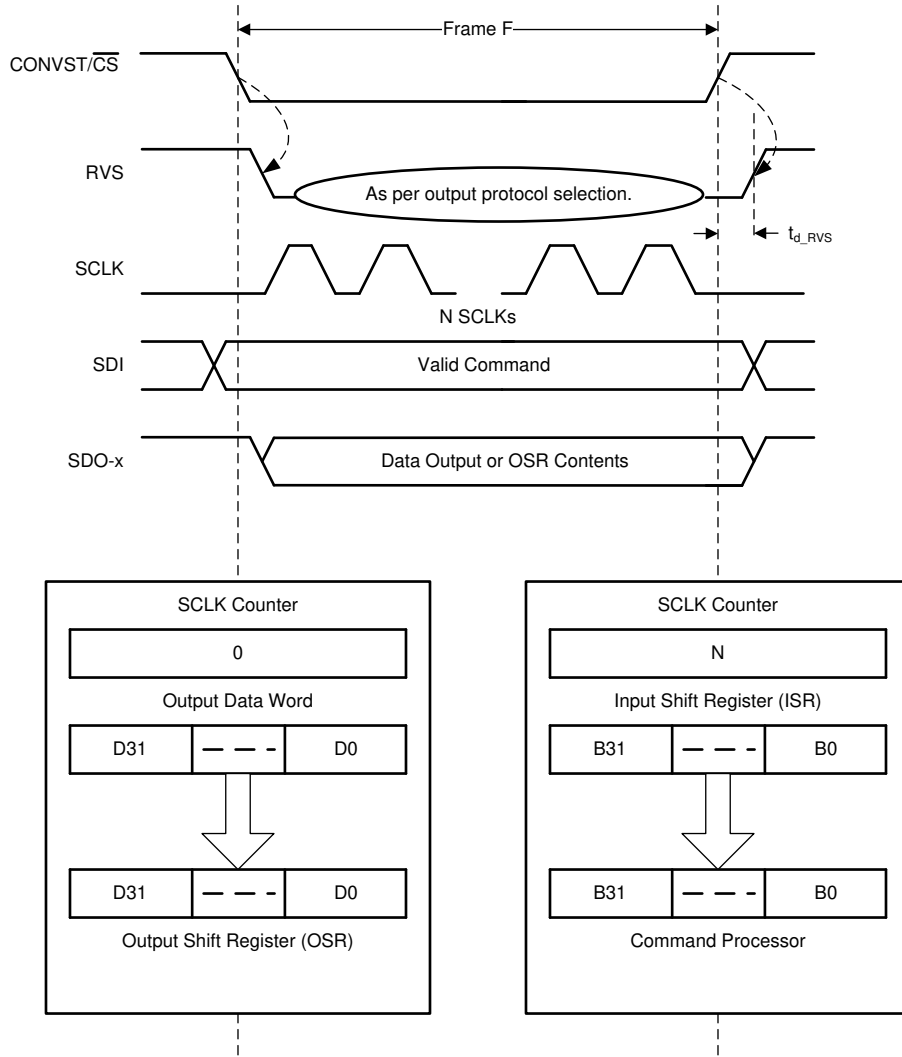

Figure 7-25. Data Transfer Frame
A data transfer frame between the device and the host controller begins at the falling edge of the CONVST/ $\overline{\text{CS}}$  pin and ends when the device starts conversion at the subsequent rising edge. The host controller can initiate a data transfer frame by bringing the CONVST/ $\overline{\text{CS}}$  signal low (as shown in Figure 7-25) after the end of the CONV phase, as described in the CONV State section.
- The device takes control of the data bus. As illustrated in Figure 7-25, the contents of the output data word are loaded into the 32-bit output shift register (OSR).
- As illustrated in Figure 7-25, the contents of the input shift register are transferred to the command processor for decoding and further action.